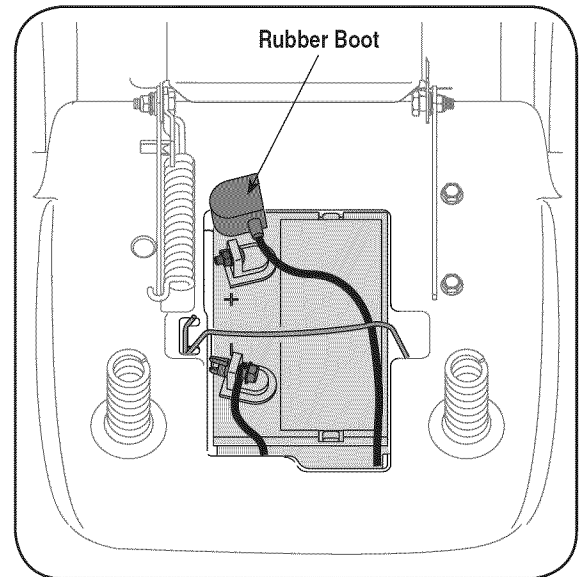

Figure 3-1
2. Remove the hex bolt and wing nut (or hex nut) from the negative cable. See Fig. 3-1.